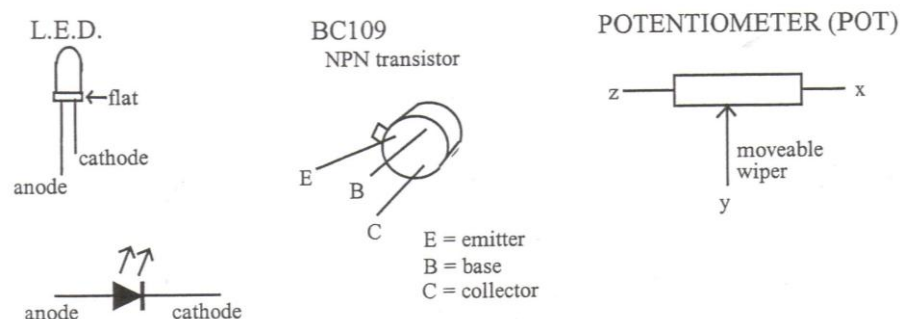

Fig. 5.1: Circuit components
1. Identify the components to be used with the aid of Fig. 5.1.